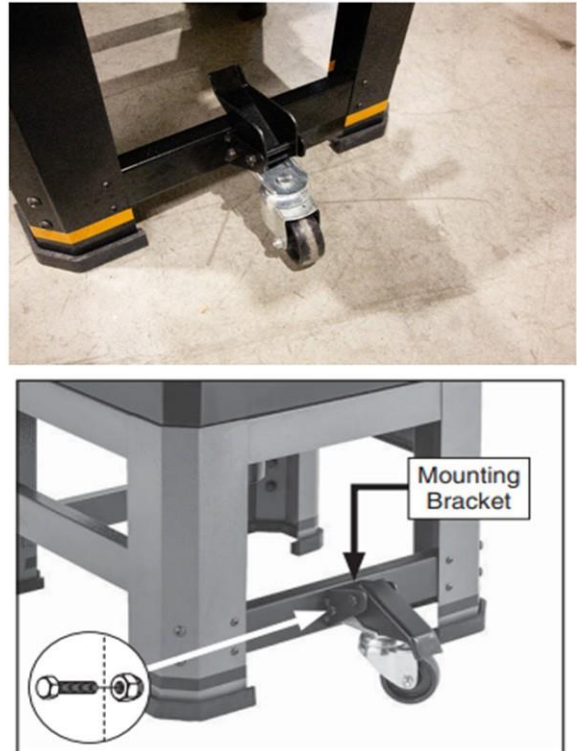

Figure 11: Installing brace and caster.
3 - Install leg brace (see figure 11) with pre-installed (4) M8-1.25X16mm button head cap screws and (4) M6-1X12mm button head carp screws.
4 - Install caster on leg brace mounting bracket with M8-1.25X65mm hex bolt and M8-1.25 lock nut (see figure 11).